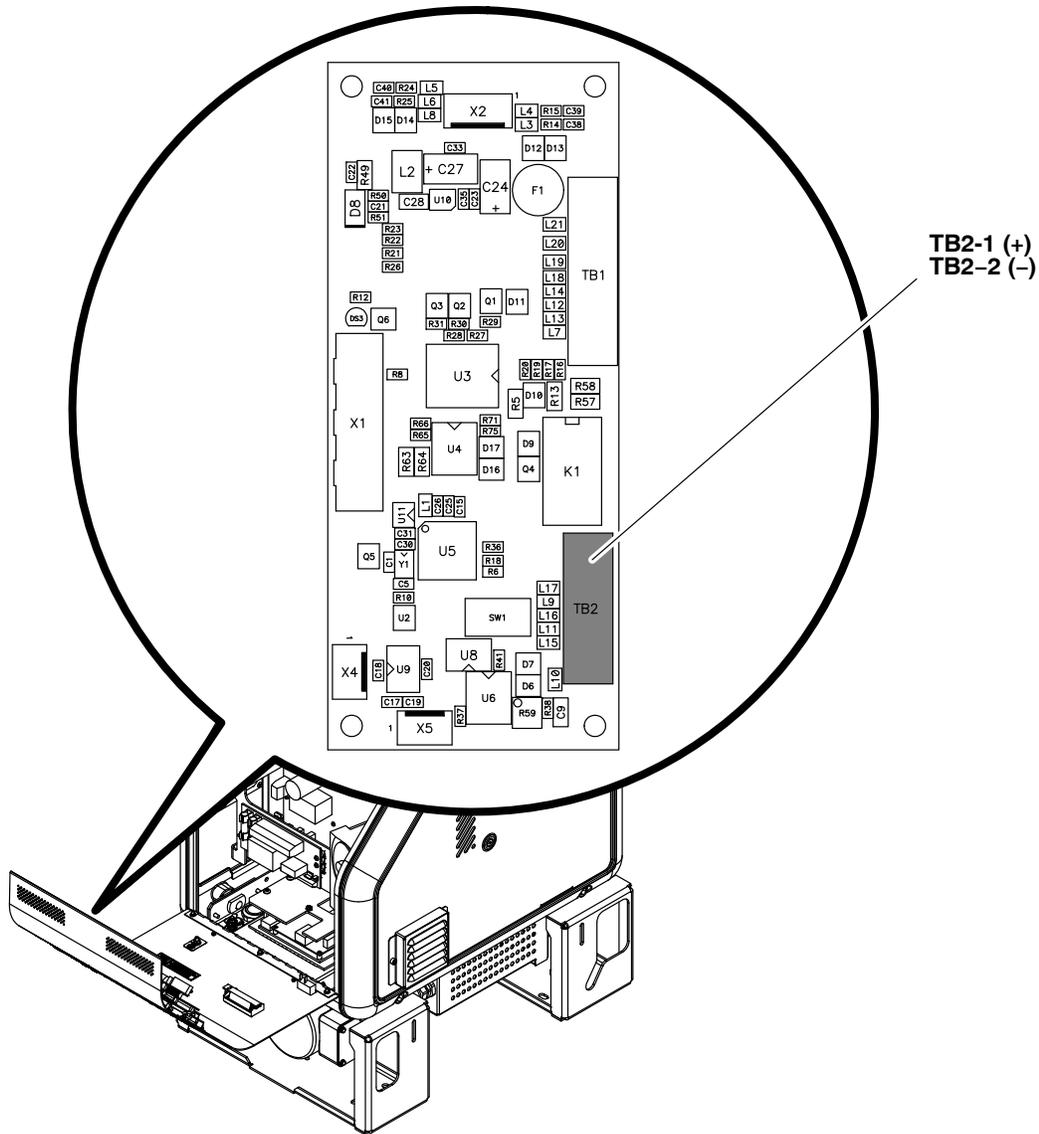

Figure 3-11 Connecting a line speed reference signal for gear-to-line operation on melters with a relay board
2. Connect a 0-10 VDC line speed reference signal as shown in Figure 3-11 for melters with a relay board.